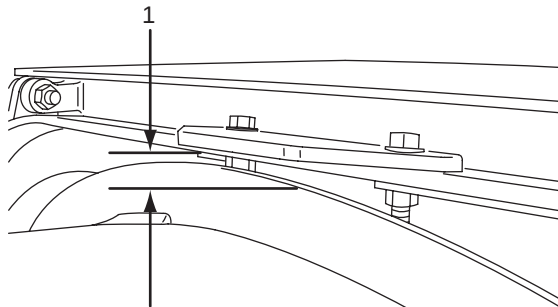

Figure 118
7. Check the debouncer-to-drip ring clearance (Figure 118, Item 1), the clearance should be $\frac{3}{8}$ to $\frac{1}{2}$ inch (10 to 13 mm) at the closest point.